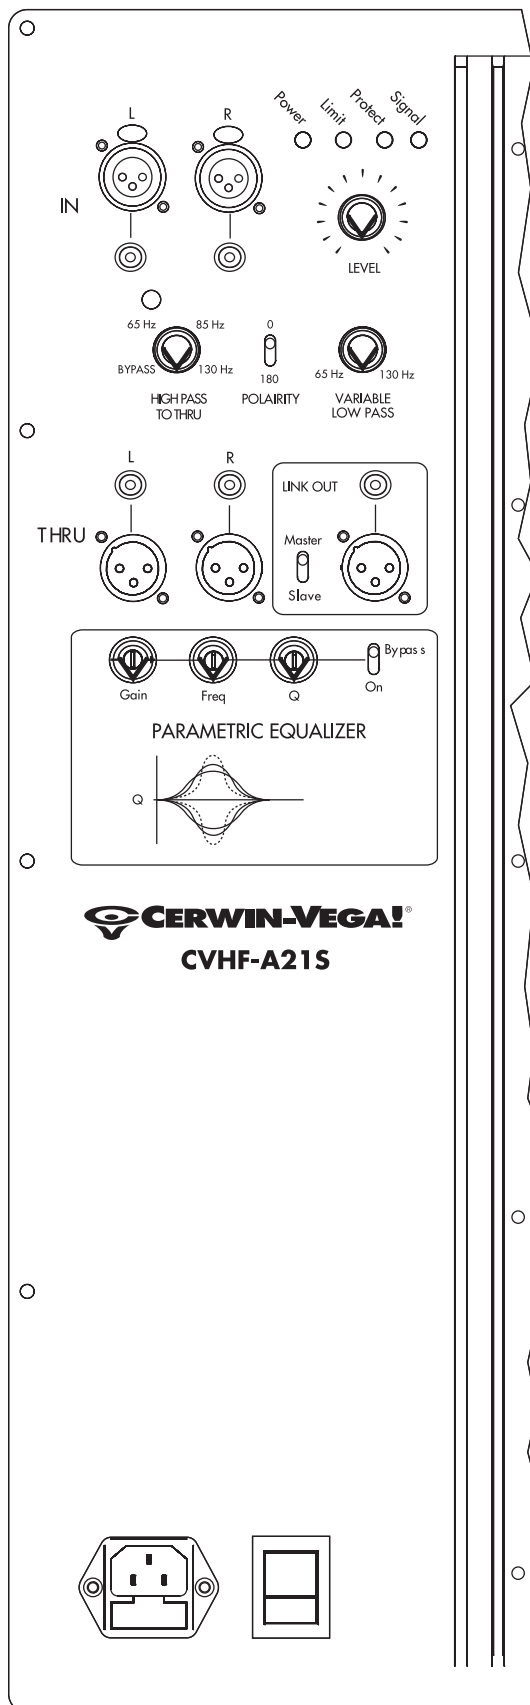

Figure 2.1
2. OVERVIEW OF CONTROLS (Figure 2.1)